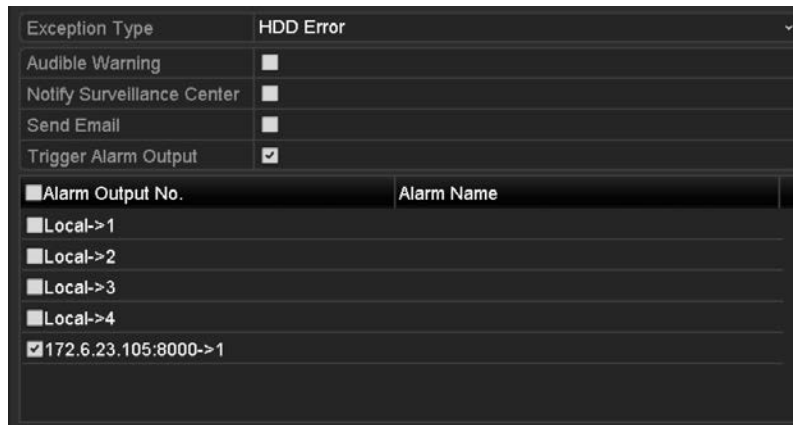

Figure 10-10 Configure HDD Error Alarm
3. Click the checkbox(s) to select the HDD error alarm type(s), as shown in Figure 10-10.